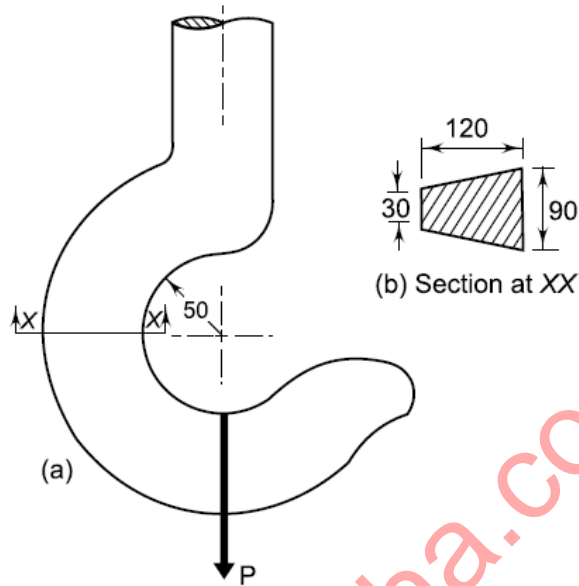

Figure 1
- Q.4** (a) With neat sketch explain the 'inertia bending forces' acting on connecting rod of an Internal Combustion (IC) engine. 03
- (b) Describe the design procedure of a crank shaft of an Internal Combustion (IC) engine. 04
- (c) A crane hook having an approximate trapezoidal section is shown in Figure 1. The hook is made of plain carbon steel 45C8 (yield strength = 380 MPa) and the f.o.s. is 3.5. Determine the load carrying capacity of the hook. 07